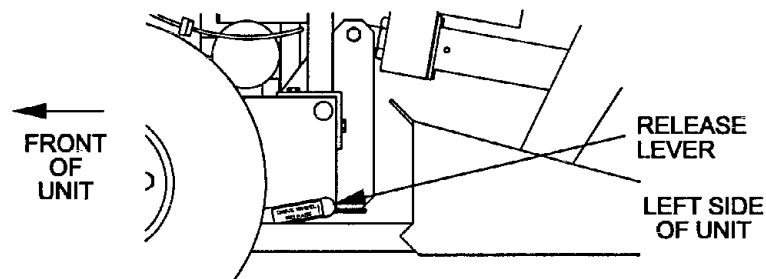

FIG. 1
- 3.6.1 Activate drive wheel release lever (See Figure 1 and Section 4.11. Roll tractor to cutter deck and cutter deck support aligning them so the tractor is positioned for ease of mounting the deck support.
- 4.11 Drive Wheel Release Lever: Located on the lower left rear corner of engine deck (See Figure 1). The drive wheel release lever is used to release the hydrostatic drive system to allow machine to be pushed while the engine is not running. Rotate lever 1/4 turn counter-clockwise to release drive system. Rotate 1/4 turn clockwise to set drive system.